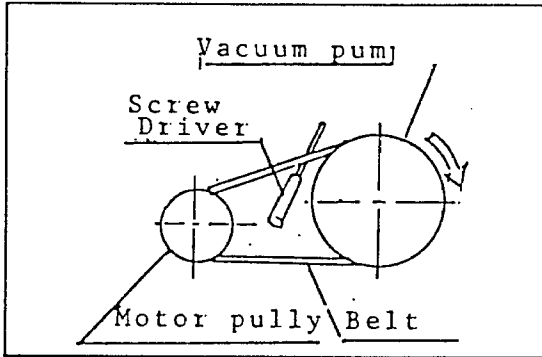

fig. 15
6. Replace belt (fig. 15). Place screwdriver between vacuum pump pulley and belt. Rotate vacuum pump pulley by hand in direction of arrow. Remove belt. Place new belt on motor pulley. Slip belt onto vacuum pump pulley by again rotating pulley in direction of arrow.